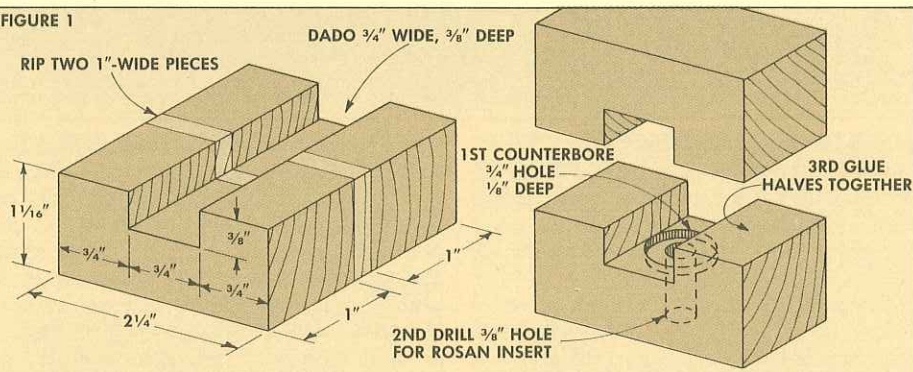

FIGURE 2
Next I ripped a piece for the arm so it fit snugly in the mortise, Fig. 2. Since I didn't have a fancy steel pin for the marking point, I used an X-acto blade. To mount it I had to mortise a hole near the end of the arm. I just drilled a  $\frac{3}{8}$ " hole and squared it up with a chisel.
**THE PINS.** To start, the pins are marked out on the legs. Each of the pins is the same size. Looking at the outside face of the legs, the narrowest part of each pin is  $\frac{1}{2}$ " wide, Fig. 2. To mark the angles on the end grain I used a setting of 1:5 ( $10^\circ$ ).